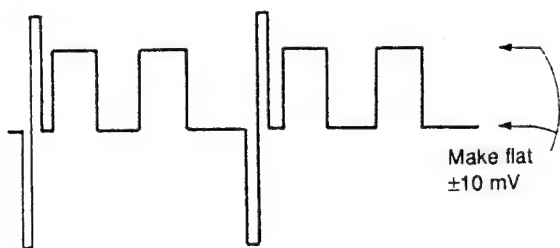

Fig. 2-9.
6. As shown in Fig. 2-9, adjust the R-Y PULSE LEVEL data so that the RED waveform becomes flat.